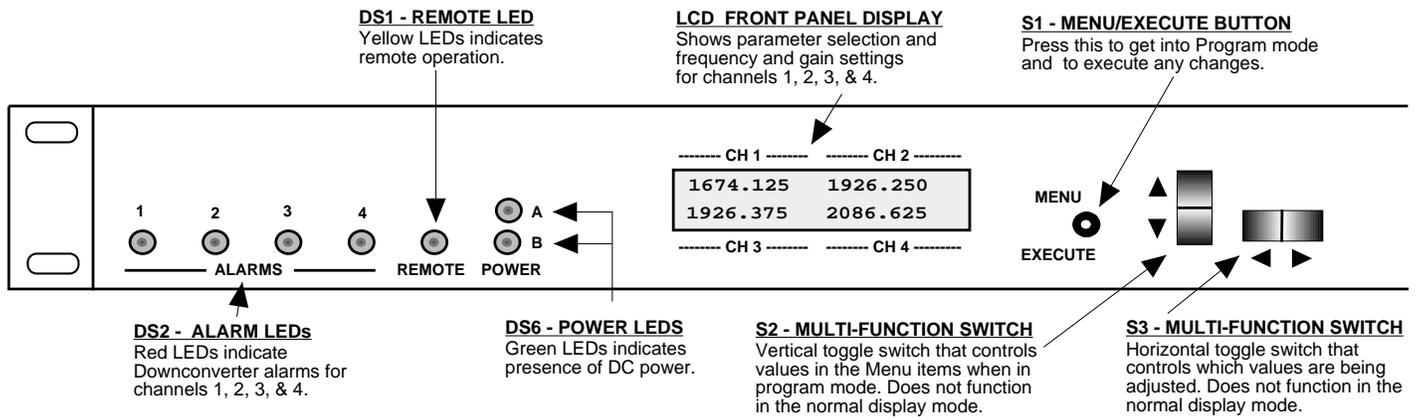

FIGURE 2.3 2415-x02 Front Panel Controls and Indicators
7. Be sure DS6 (green, DC Power, PSA, PSB) is on and DS2 (red, Alarm) is off (Figure 2.3).
1. Menu/Execute - Any change to the programming of the unit must be initiated by pressing the Menu/Execute switch and completed by pressing the Menu/Execute switch (Figure 2.3).
2. Horizontal Switch - This switch is mounted so its movement is horizontal and moves the cursor left or right (Figure 2.3).
- a. During frequency, gain changes, the vertical movement will raise or lower the number in the direction of the arrows (Figure 2.3).
Alarm indications appear on the LEDs (See figure 2.3). An alarm condition will occur if any local oscillator phase lock loop (PLL) comes out of lock. The Remote LED will light when you select the Remote mode.